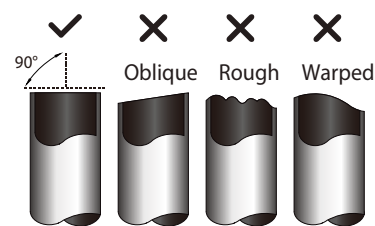

Fig. 16 — Pipe Cutting
- a. Cut the pipe, with a pipe cutter, at 90 degrees (see Fig. 16).